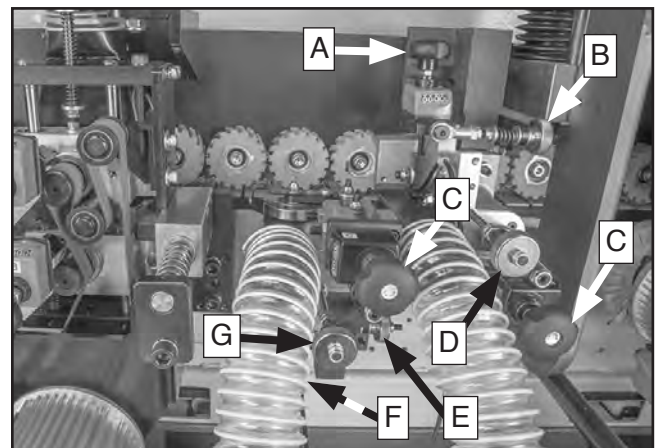

Figure 59. Location of scraper adjustment controls.
Similar to adjusting the flush trimmers, adjust each scraper by rotating the adjustment knobs (C) (see **Figure 59**) until the dial indicator reads the same measurement as the thickness of the edgebanding currently installed.